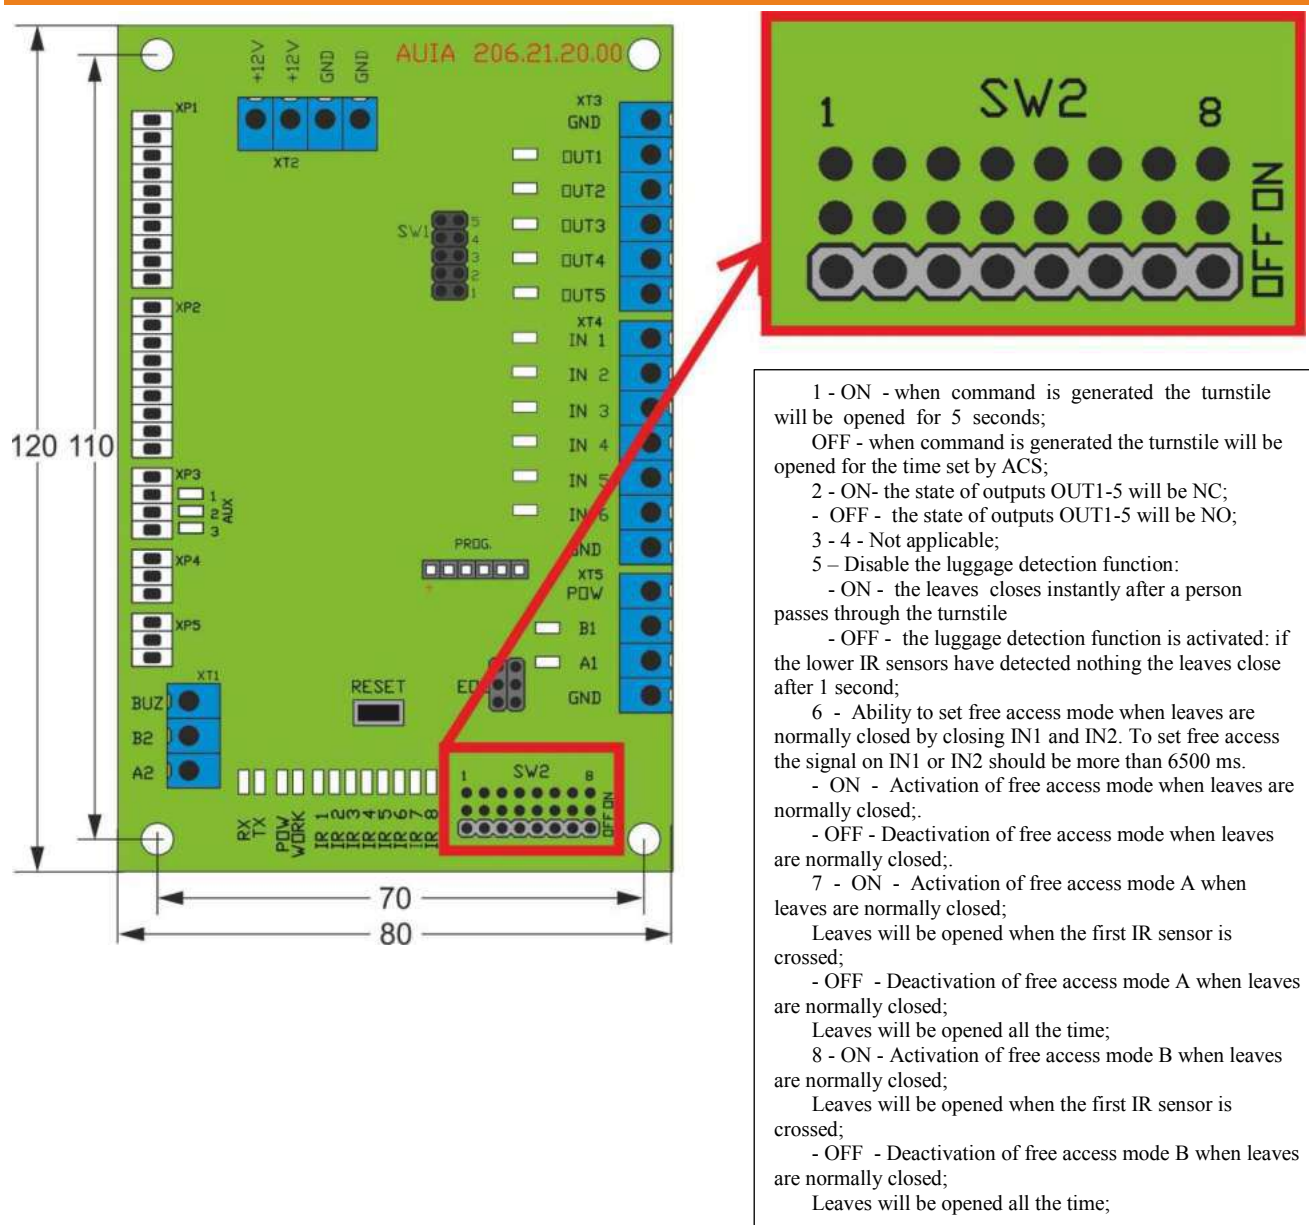

Fig. 10 – Appearance of controller AUIA.206.21.20.00
1.5.1.1 Appearance of controller AUIA.206.21.20.00 is shown in *Figure 10*.